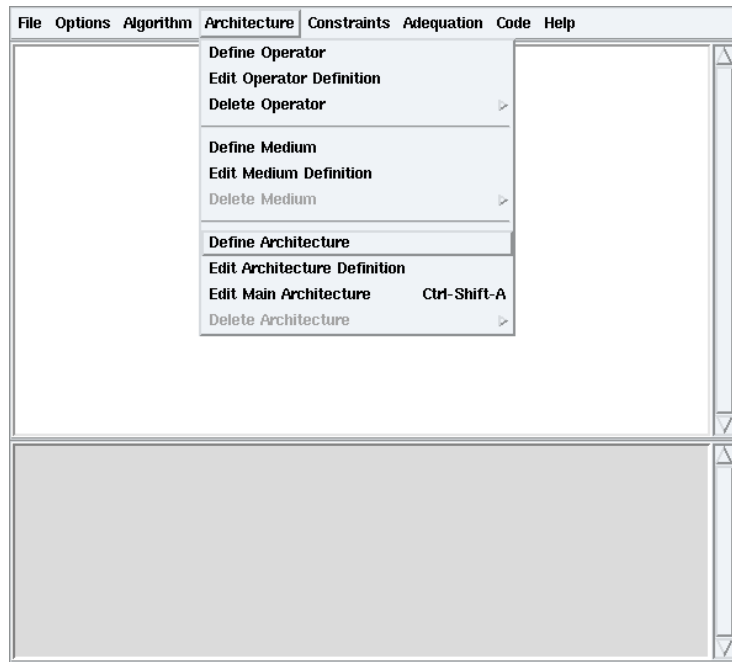

Figure 1.14: **Architecture / Define Architecture**
- from the main window: **Architecture / Define Architecture** (cf. figure 1.14) → dialog window: type `ArchiOneOperator` then click **OK** → definition window;
- from the main window: **Architecture / Define Architecture** (*cf.* figure 1.14) → dialog window `ArchiSamPointToPoint` → definition window;
- from the main window: **Architecture / Define Architecture** (cf. figure 1.14) → dialog window: ArchiSamMultiPoint → ArchiSamMultiPoint definition window;
- from the main window: **Architecture / Define Architecture** (cf. figure 1.14) → dialog window ArchiRam → ArchiRam definition window;